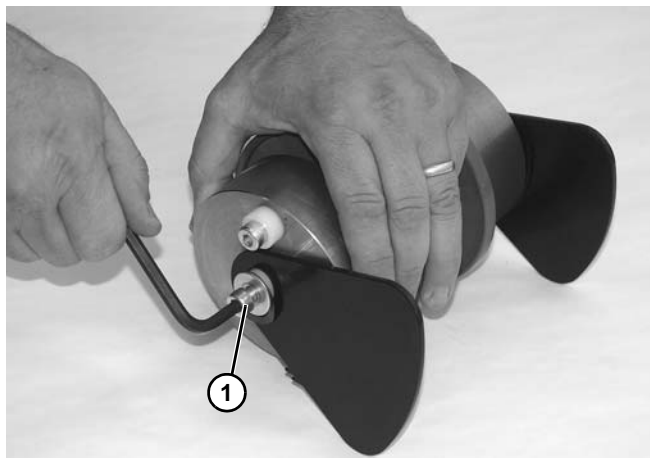

Figure 152
6. Remove socket head screw (Figure 152, item 1) from end of idler pulley assembly.